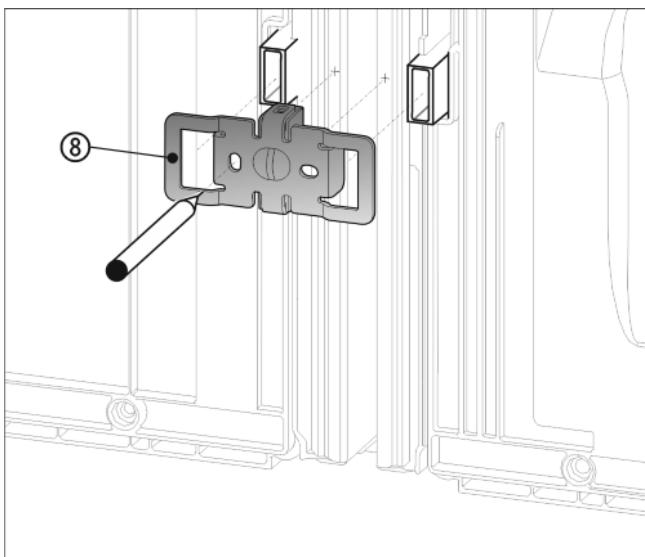

Fig. 10
- ▶ Slide the bracket Fig. 10 (8) on with the slots over the retainer for the wall spacers.